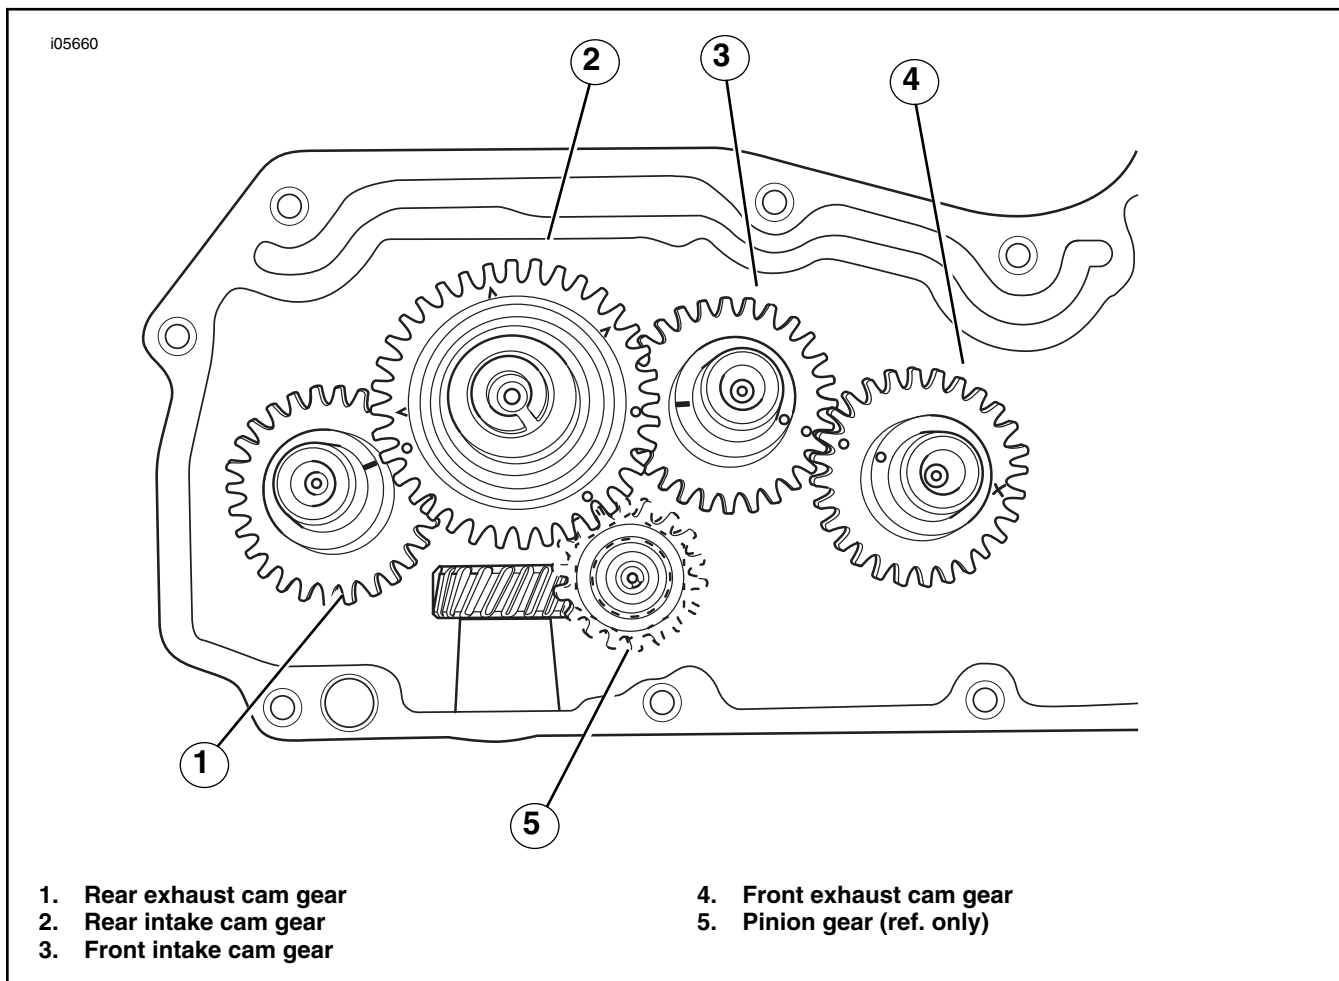

Figure 1. Timing Mark Alignment
8. See Figure 1. Rotate engine to align timing marks. Cams are numbered 1 to 4 from the rear exhaust (1) to the front exhaust (4). Remove camshaft (2). One at a time, remove camshafts (1), (3), and (4) and replace with the appropriate camshaft from this kit. Be careful to maintain timing mark alignment. Install camshaft (2) from this kit last. Carefully check alignment of all timing marks.